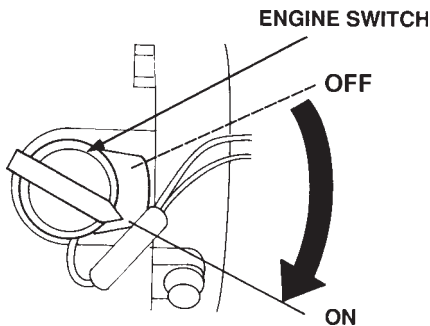

Figure 9. Engine ON/OFF Switch
- Turn the engine switch (Figure 9) to the ON position.